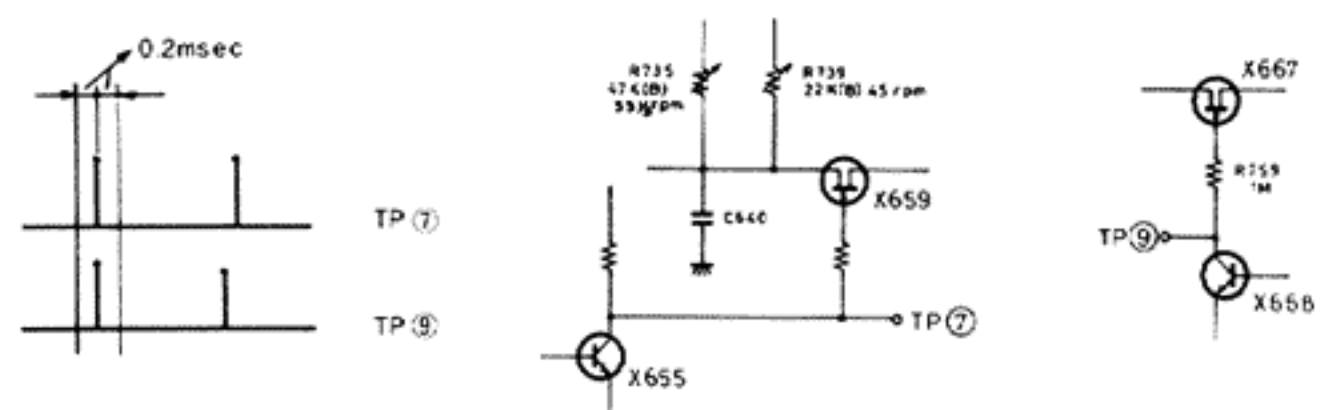

Fig. 49
- Remove the 670-ohm resistor and $200\mu F$ capacitor from TP⑧.
In this state, adjust coarse adjusters VR735 and VR739 to obtain rotation of approximately $33\frac{1}{3}$ and 45 rpm. Connect the probes of a dual beam/trace oscilloscope (2 msec/div) to TP⑦ and TP⑨ then externally trigger the scope with signals from TP⑨. Staying within the -6Hz (min) quartz lock frequency range, adjust VR735 and VR739 until the deviation of each pulse at TP⑦ is within ± 0.2 msec as shown in Figure 49.